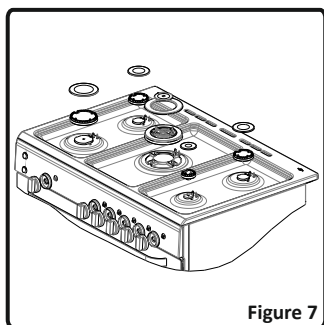

Figure 7
- Remove the burner cap and the adapter(Figure 7).